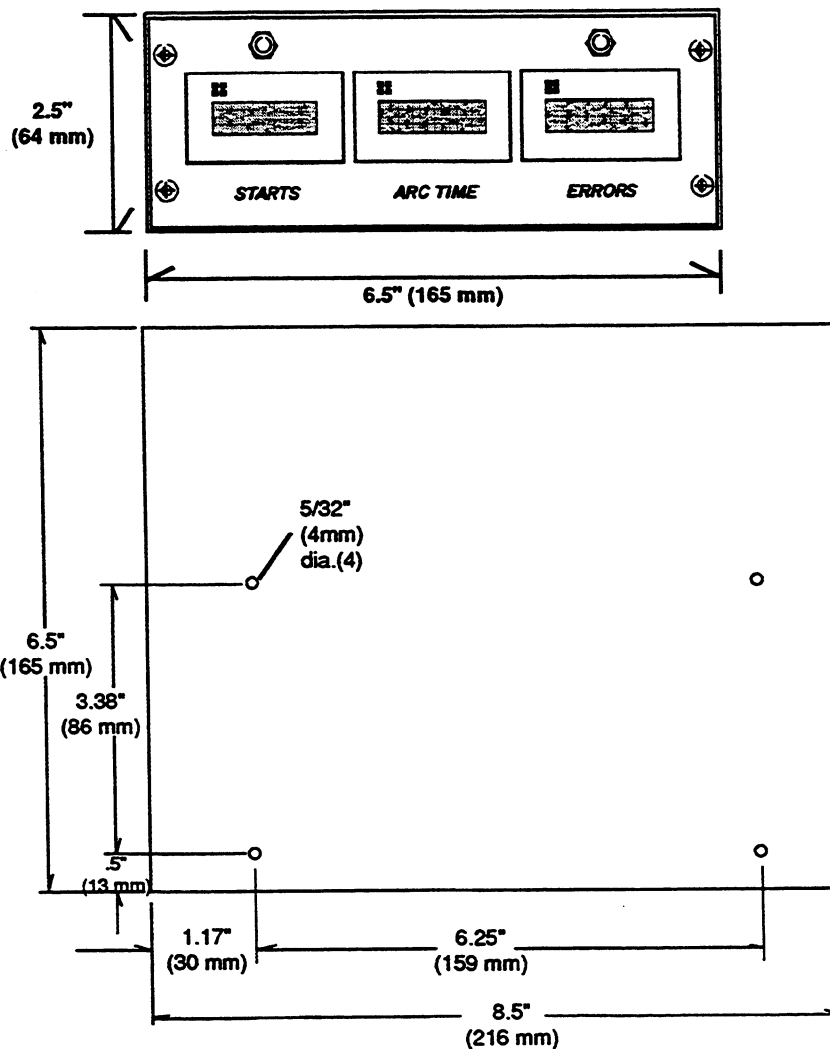

Figure d-1 Timer-Counter Dimensions and Mounting Holes
1. Mount the timer-counter for easy access, refer to Figure d-1 for dimensions. For fixed mounting of the timer-counter, four mounting holes are located on the bottom.